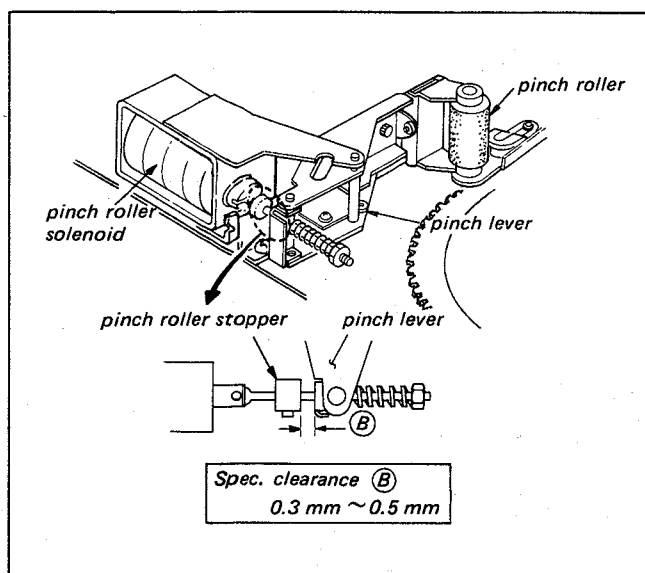

Fig. 6-1. Pinch roller stopper position adj.
2. Check to see that the clearance (B) shown in Fig. 6-1 exists between the Pinch Roller Stopper and the Pinch Lever, for 0.3 mm ~ 0.5 mm. If not, adjust the position of the Pinch Roller Stopper.
3. Repeat pressing the PAUSE button several times and confirm the clearance (B).